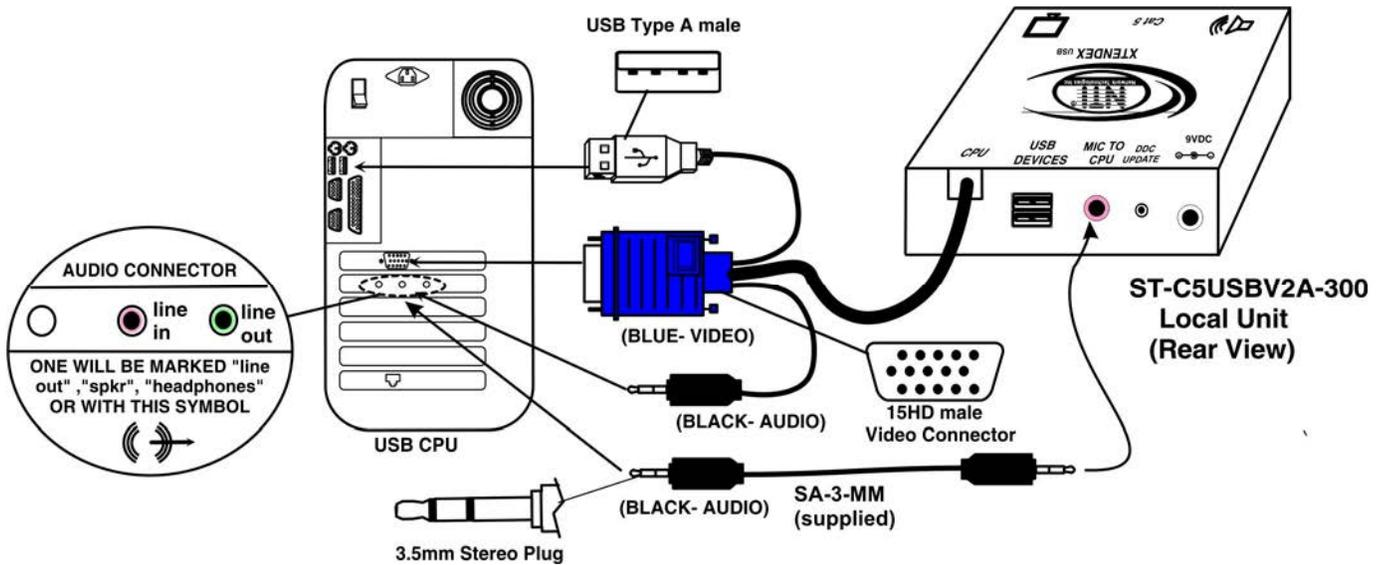

Figure 2- Local unit with audio support connects to CPU
- c) If the Local Unit has Audio support (ST-C5USBVA-300 only), connect the black 3.5mm stereo plug into the "line out", "speaker", or "headphones" jack on the back of the CPU. (See Figure 2)